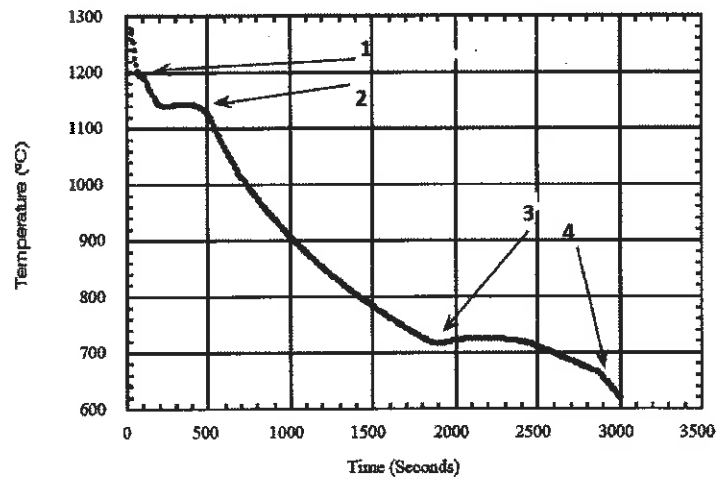

Figure 2. Thermal analysis result of the gray iron melt
- 3.1 The cooling curve of a sample of gray iron melt is shown in figure 2. Describe and explain the transformation at the various inflection points indicated on the graph (8)
- 3.2 Suppose that this gray iron melt has been fully inoculated. With the aid of graph, explain the cooling curve of a non-inoculated cast iron. Fully explain the difference between the non-innoculated cooling curve and the cooling curve in figure 2 (10)